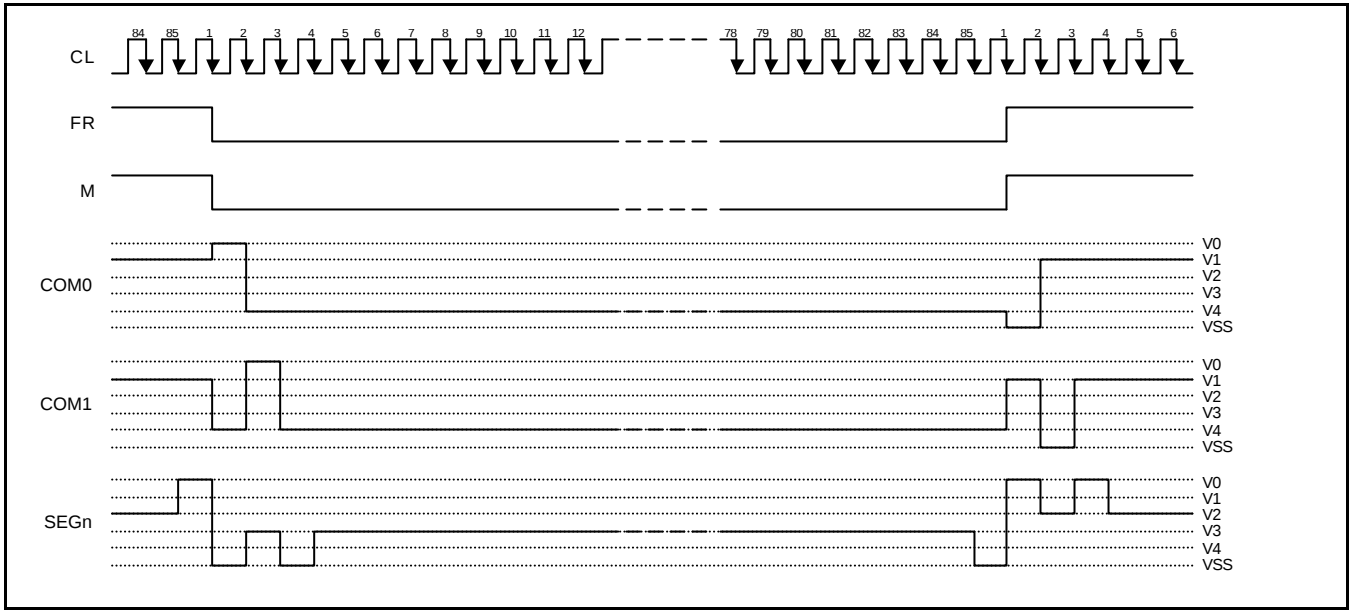

Figure 14. 2-frame AC Driving Waveform (Duty Ratio = 1/85)
This circuit generates some signals to be used for displaying LCD. The internal display clock, CL, generated by oscillation clock, generates the clock for the line counter and the signal for the display data latch. The line address of on-chip RAM is generated in synchronization with the display clock (CL) and the display data latch circuit in synchronization latches the 132-bit display data with the display clock. The display data, which is read to the LCD driver, is completely independent of the access to the display data RAM from the microprocessor. The display clock generates an LCD AC signal (M) which enables the LCD driver to make a AC drive waveform, and also generates an internal common timing signal and start signal to the common driver. The frame or the line changes the phase of M by setting internal instruction. Driving waveform and internal timing signal are shown in figure 14.